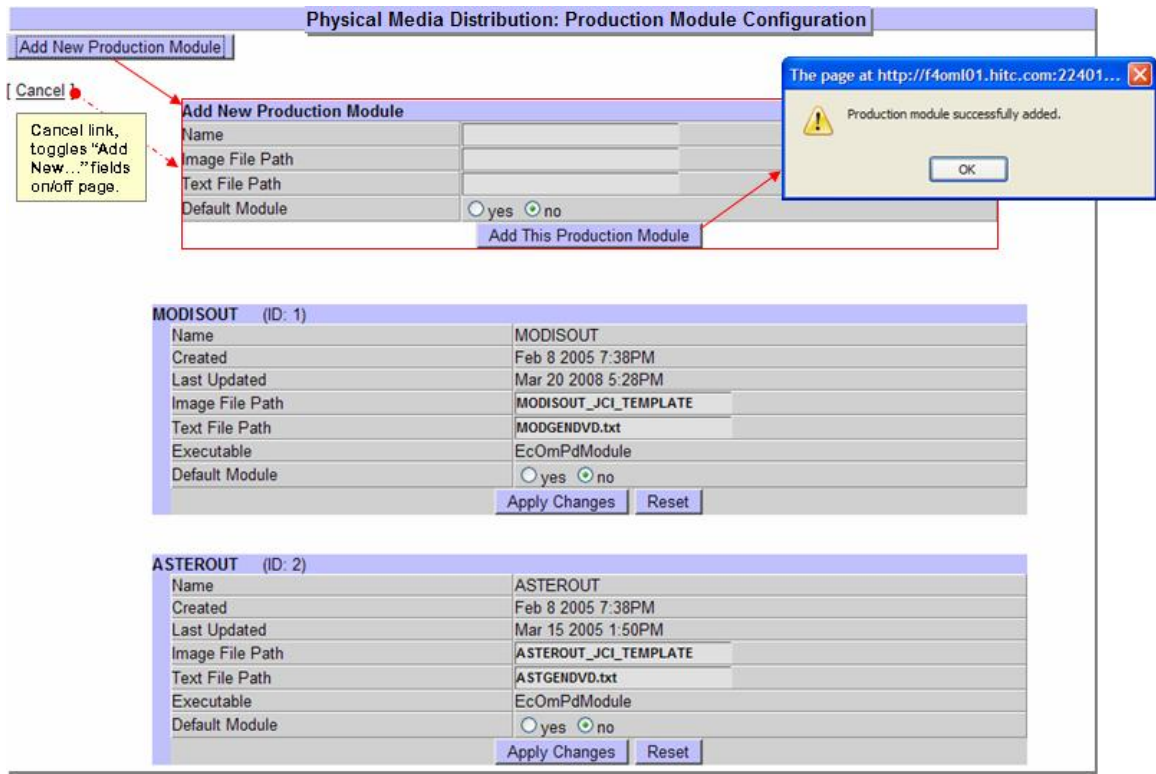

Figure 15.12-20. PMD Production Module Configuration Page
The **OM GUI** handles the configuration of production modules used in physical media creation. Production modules can be “added” and production module parameter values can be “edited.” The **PMD Module Configuration** page (Figure 15.12-20) displays the following information for all currently configured production modules:
- 2 Click **PM Configuration** submenu option to display the **Physical Media Distribution: Production Module Configuration** page (Figure 15.12-20).
- Click the **Add New Production Module** button on the **PMD Production Module Configuration** page (Figure 15.12-20).